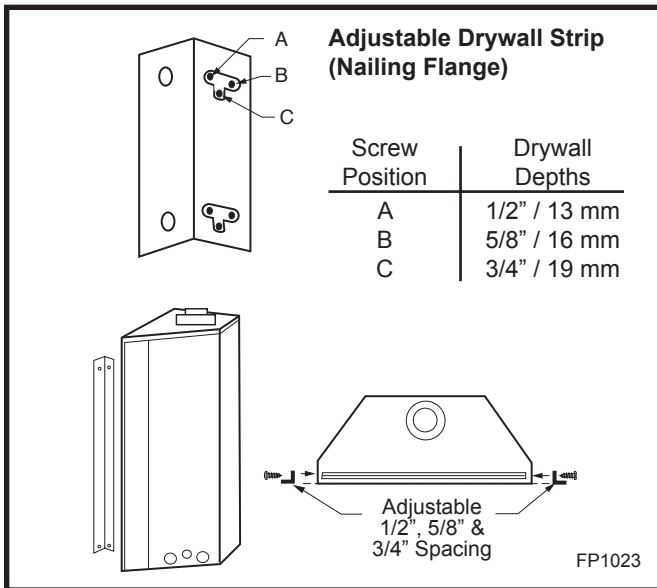

Fig. 4 Adjustable drywall strip (nailing flanges).
4. Attach the fireplace to the frame using the adjustable frame drywall strips (located behind the access door for shipping). Preset the depth to suit the facing material of the wall. The strips are adjustable to 1/2" (13 mm), 5/8" (16 mm), or 3/4" (19 mm). (Fig. 4)